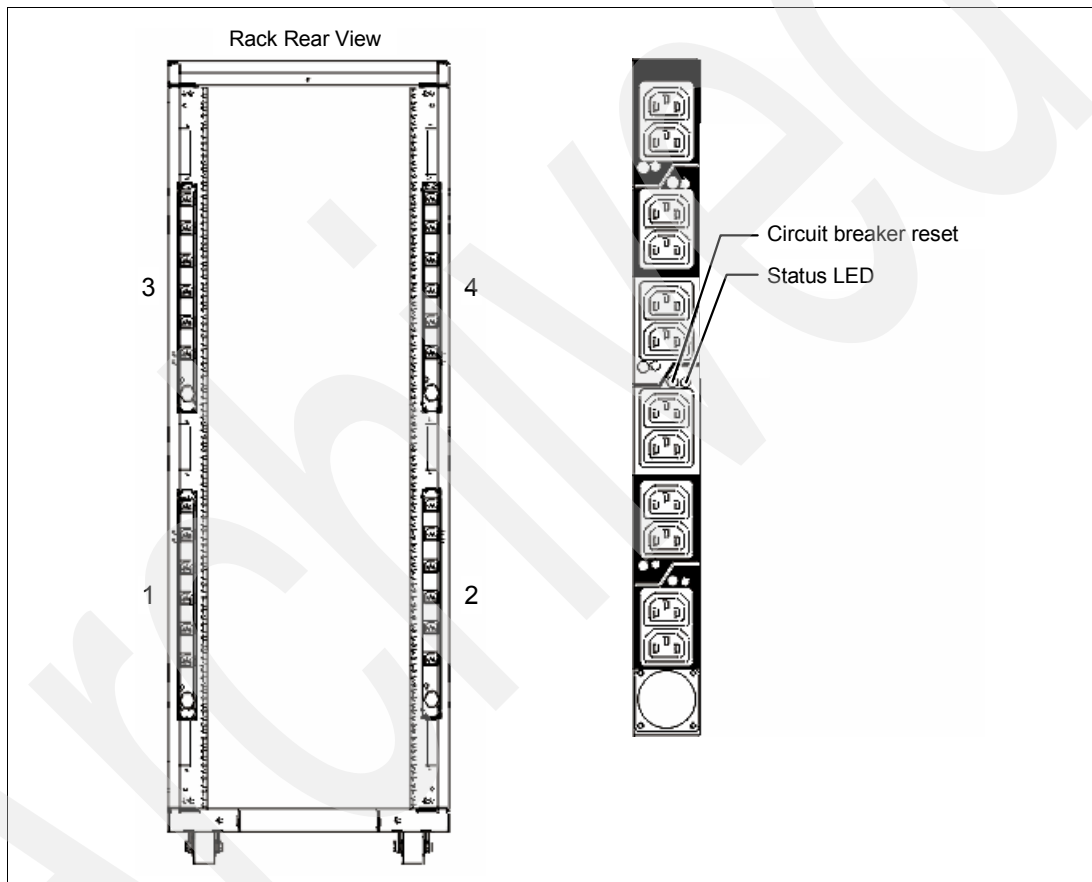

Figure 1-6 PDU placement and PDU view
- ▶ Up to four power distribution units (PDUs) can be mounted in the PDU bays (Figure 1-6 on page 31), but others can fit inside the rack. See 1.12.7, “The AC power distribution unit and rack content” on page 31.
Four PDUs can be mounted vertically in the back of the T00 and T42 racks. Figure 1-6 shows the placement of the four vertically mounted PDUs. In the rear of the rack, two additional PDUs can be installed horizontally in the T00 rack and three in the T42 rack. The four vertical mounting locations will be filled first in the T00 and T42 racks. Mounting PDUs horizontally consumes 1U per PDU and reduces the space available for other racked components. Mounting PDUs horizontally, use fillers in the EIA units occupied by these PDUs to facilitate proper air flow and ventilation in the rack.